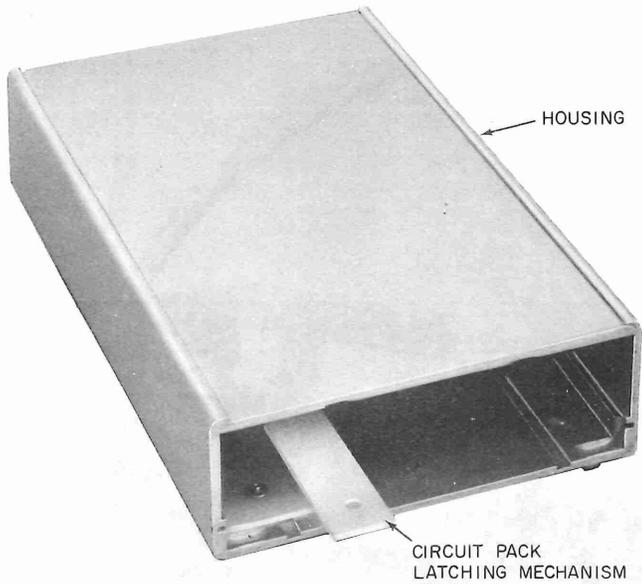

Fig. 3—Housing
2.05 Externally the housing is similar in appearance to the 47-type data mounting. The housing consists of an aluminum extrusion that provides guides for mounting the circuit pack, and front and rear covers. No interface assembly or electrical connections are provided. All connectors are mounted directly on the circuit pack. The circuit pack is held in position by the latching mechanism shown in Fig. 3.